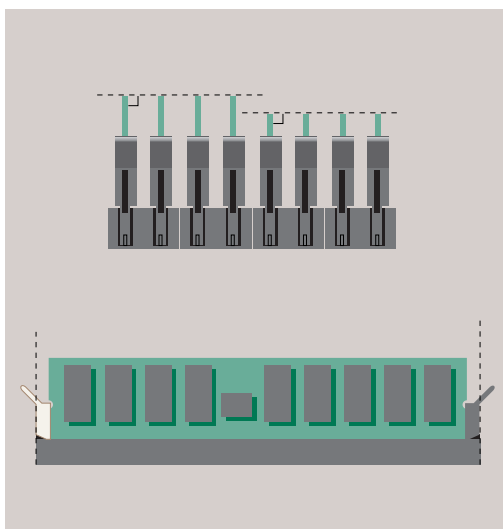

Figure 2-10 Checking the DIMM Installation
6. Check the DIMMs visually to make sure they are installed correctly (Figure 2-10).